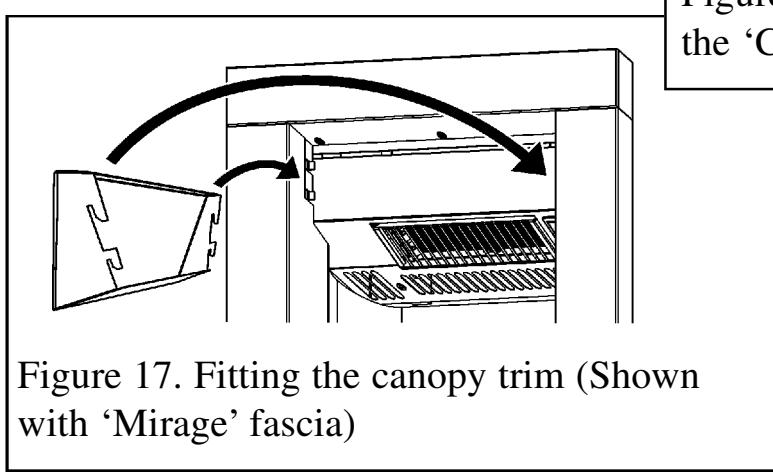

Figure 17. Fitting the canopy trim (Shown with 'Mirage' fascia)
3. Supplied in the fascia pack is a canopy trim. Hang this at the top of the fascia (See figure 17).
1. Supplied in the fascia pack is a canopy trim. Hang this at the top of the fascia (See figure 17).